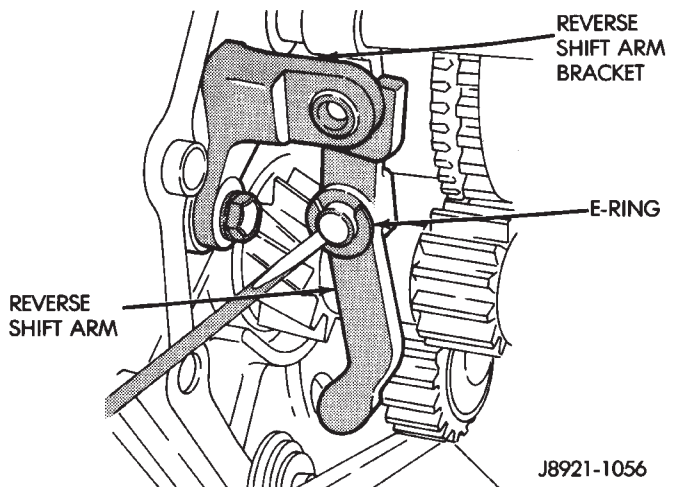

Fig. 26 Reverse Shift Arm E-Ring Removal
(5) Remove E-ring that secures reverse shift arm to fork (Fig. 26).